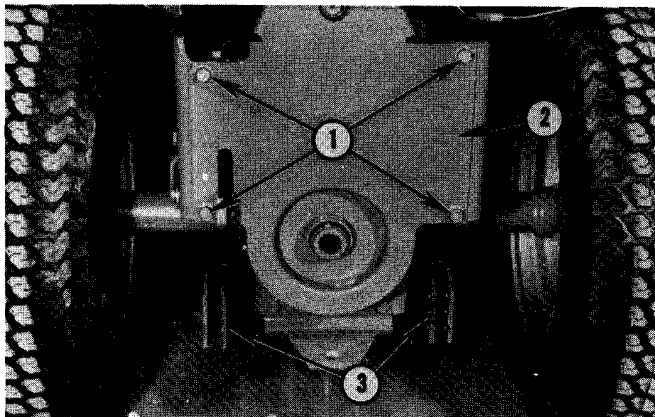

Fig. 2 - HITCH PARTS AND PTO SHIELD REMOVED
Remove four (4) existing bolts from rear PTO belt cover, but do not remove cover itself, Fig. 2. Note that lift hitch mounting brackets remain on tractor.